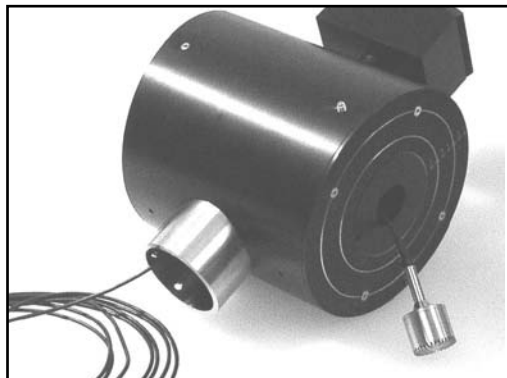

Fig. 4.6
4. Pull the cable through until there is just a manageable amount sticking out of the side of the head (Fig. 4.6).